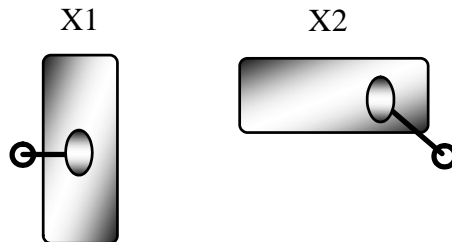

Figure 4-3
- Referring to Figure 4-3, insert the jumper wires into the grounding holes provided near X1 and X2. Fold each wire over the top of the crystal and solder it to the top of the can. (Only a small amount of solder is required.) Then solder and trim the wire on the bottom of the board.